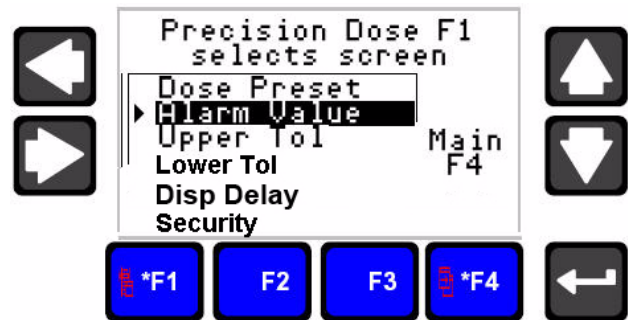

FIG. 2 Precision Dose selects screen
3. Enter the password and *Precision Dose Selects* screen appears. See FIG. 2.